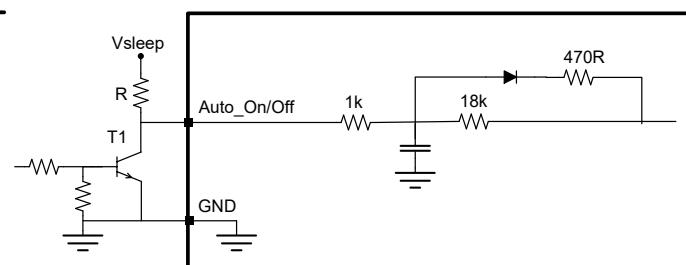

Figure 15: Controlled On/Off application
- On/Off by mains switch: If the board should power up when mains voltage is present, the Auto\_On/Off pin should be connected to GND as shown in figure 15 to disable the Signal Sense feature.